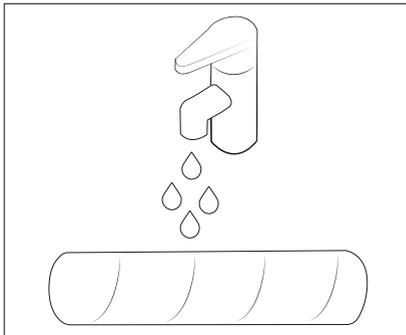

Fig. 14
- 4) Clean the roller brush **12** with warm tap water (see Fig. 14). If necessary, add some cleaning agent to the roller brush **12**. Allow the roller brush **12** to air dry completely before placing it back in the wiping unit **7**.